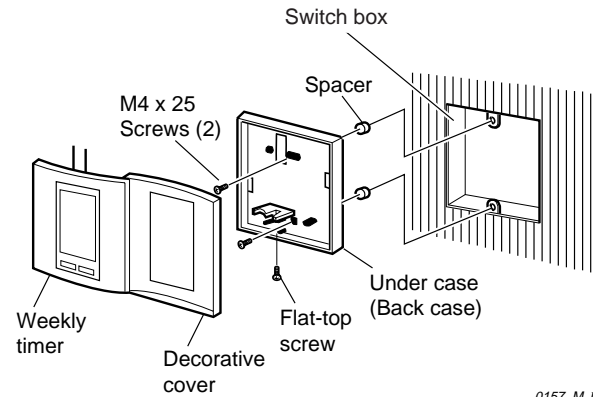

Fig. 7-1
- (1) Remove the flat-top screw on the bottom of the back case. When you open up the decorative cover, you will see two gaps under the weekly timer. Insert a coin into these gaps and remove the back case. (Figs. 7-1, 7-2)
- (2) Attach the back case with the 2 small screws provided. Using a screwdriver, push open the cut-outs on the back case. These holes are for screws. Use the spacers and take care not to tighten the screws excessively. If the back case does not sit well, cut the spacers to a suitable thickness. (Fig. 7-1)
- (3) Connect the 4 wires to the weekly timer 4P terminal base (see next page).
- (4) To finish, fit the back tabs of the back case into the weekly timer and mount it using the flat-top screw.